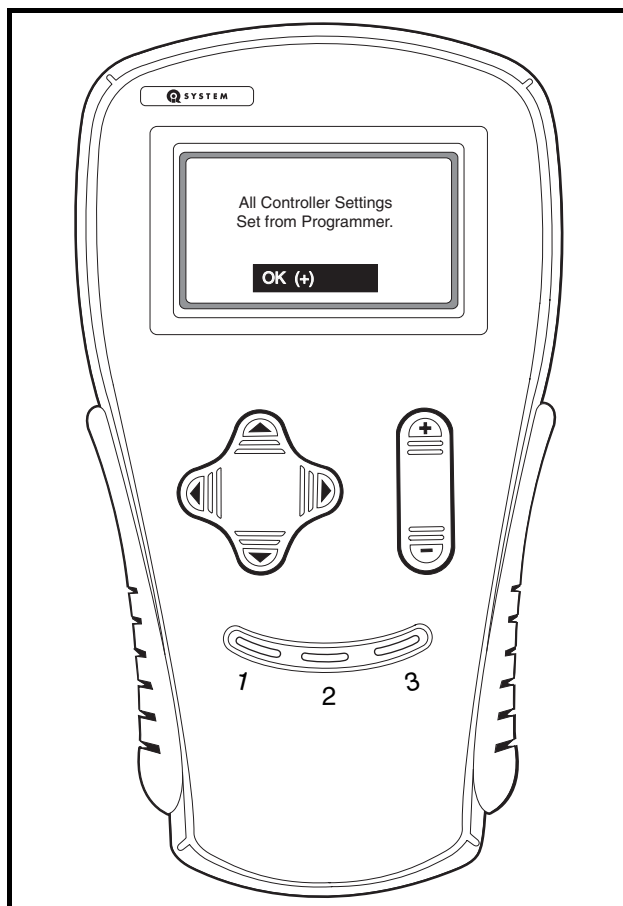

Figure 22-6 Confirmation Message
10. When the handset is finished transferring the speed controller settings, a confirmation message is displayed (**Figure 22-6, Page 22-13**).